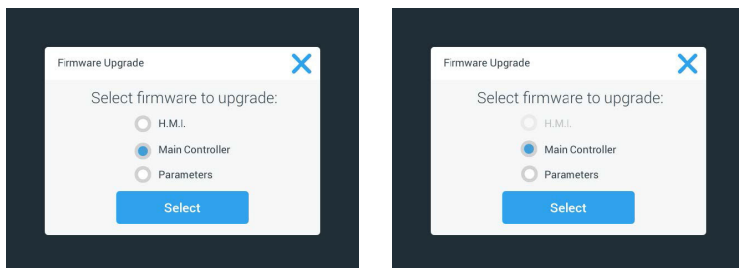

Figure 115: Select Firmware Item to Install
11. If there is firmware to upgrade, the itemized list shown in Figure 115 appears in the Firmware Upgrade screen. Tap on the firmware item you wish to upgrade.
**NOTICE** If you select the H.M.I. option from the list shown in Figure 115 to upgrade the GUI firmware only, the GUI display will not respond to any further tapping on the touchscreen's active area for up to one minute after you have started the firmware upgrade. Please do not power off the shaker during this period, otherwise the upgrade will not be completed successfully. The shaker will restart after a short time and then be ready for use again.
**NOTICE** In the event that you select two or three options from the list shown in Figure 115 to upgrade multiple firmware components in one go, the shaker must not be powered off at any time during the entire upgrade process.